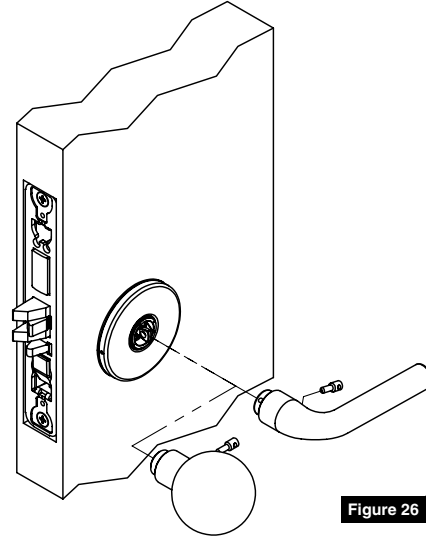

Figure 26
6. Install inside lever or knob by inserting dowel screw. (Figure 26)